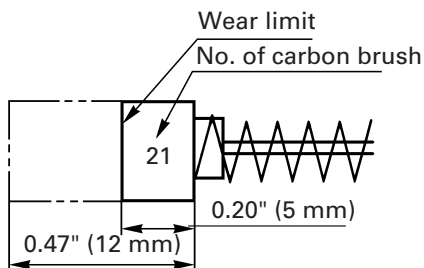

Fig. 6
4. Inspecting the carbon brushes (Fig. 6)
NOTE: Use metabo HPT carbon brush No.21 indicated in Fig. 6.